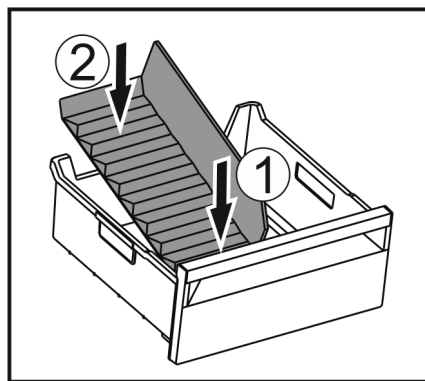

Fig. 55
- Insert the front part of the ice compartment divider. Fig. 55 (1)
- Lower the rear part of the ice compartment divider to the drawer bottom. Fig. 55 (2)